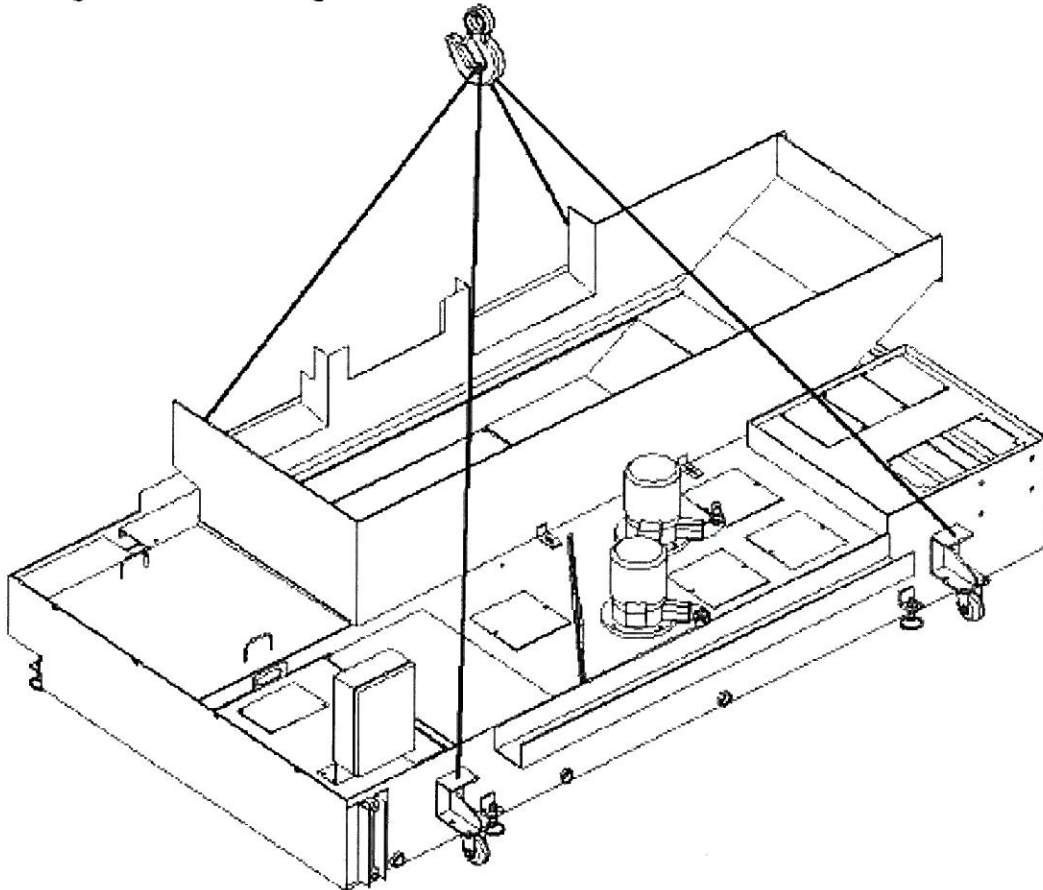

Figure 5.4.4: Lifting the rear coolant tank
- If an overhead crane is used, lift the complete coolant tank by using wire ropes of sufficient length and strength. Fix the ropes on the four corner of the coolant tank as shown in the Figure 5.4.4.
- Refer Figure 5.4.4 for lifting details.